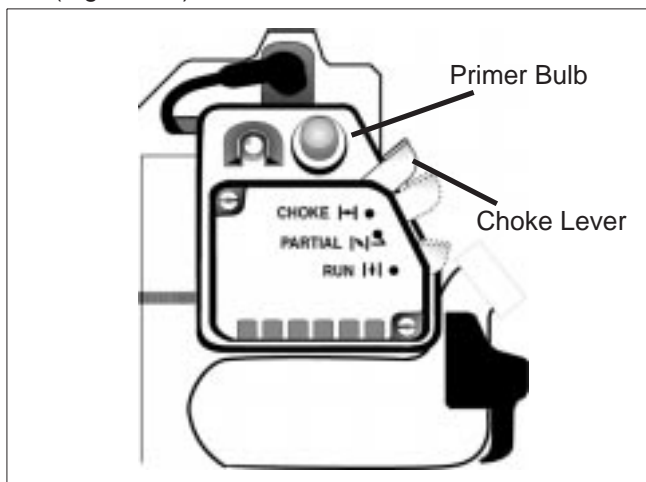

Figure 1-4. Primer Bulb and Choke Lever.
2. FULLY PRESS AND RELEASE the primer bulb 5 to 7 times (Figure 1-4).
3. Place the choke lever in the FULL “CHOKE” position (Figure 1-4).
7. Place the choke lever in the “PARTIAL” choke position (Figure 1-4).